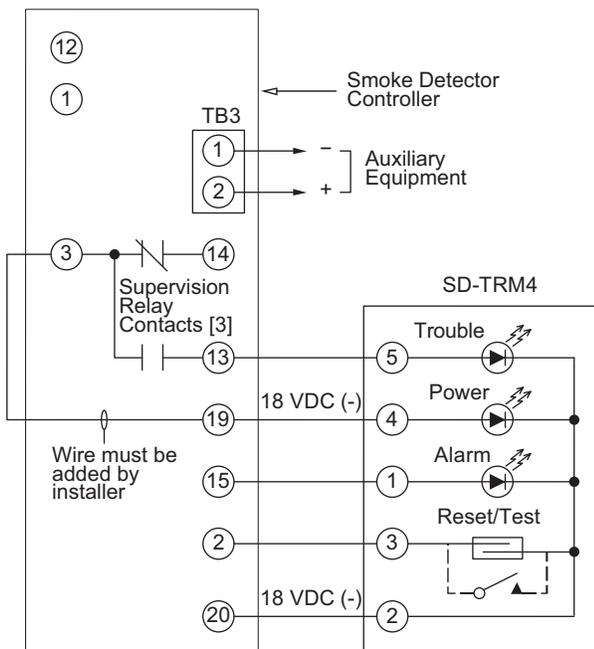

Fig. 45 — Remote Test/Reset Station Connections
The test/reset station dirty sensor test checks the test/reset station's ability to initiate a sensor dirty test and indicate the results. It must be wired to the controller as shown in Fig. 45 and configured to operate the controller's supervision relay. For more information, see "Dirty Sensor Test" on page 26.
1. Verify that the remote test/station is wired as shown in Fig. 45. Repair or replace loose or missing wiring.